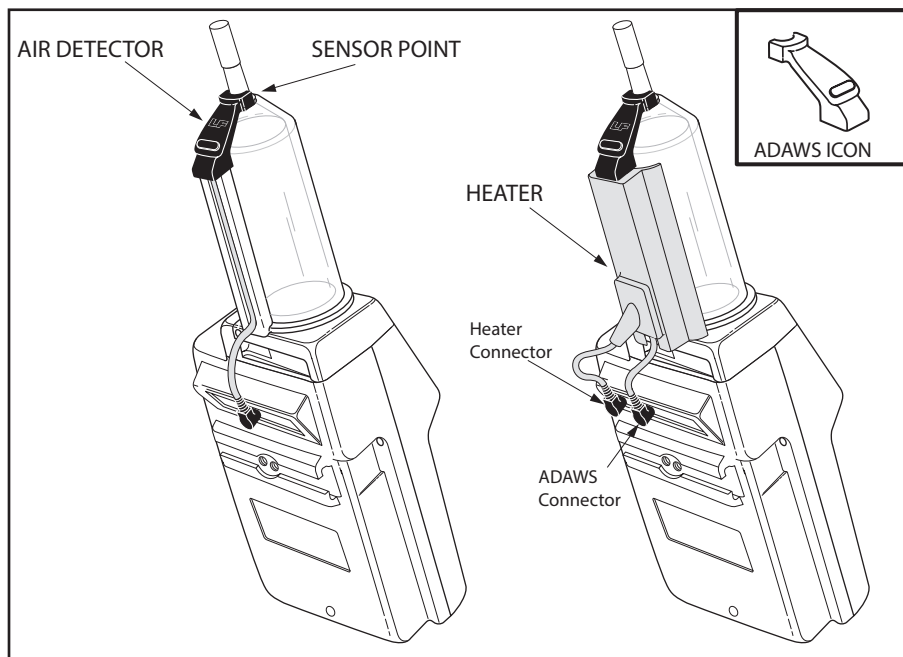

Figure 8-1-2 ADAWS Installed without Heater and with Heater
7. Connect ADAWS connector to the receptacle on the bottom side of the powerhead marked with the ADAWS icon as shown in Figure 8-1-2.
8. If current system also has the Heater Assembly, install it to the mounting post as shown in Figure 8-1-2.